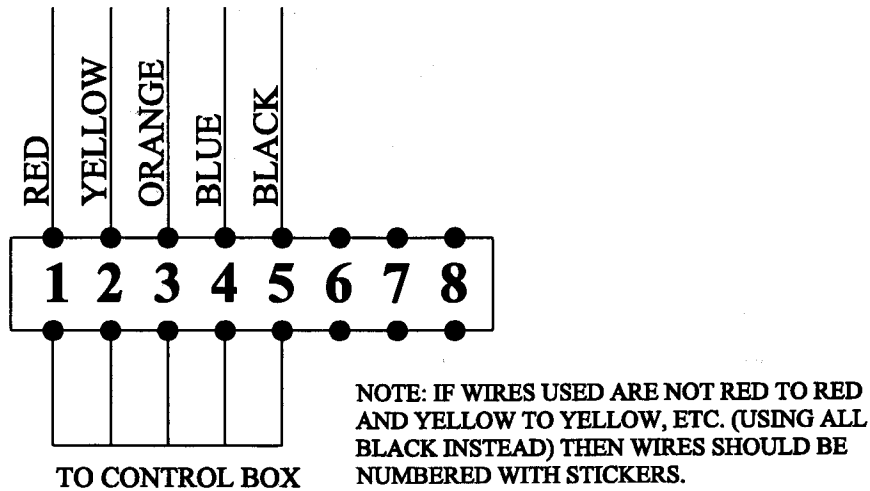

FIG. 1
- 1) After the scale and augers are installed make a final inspection. Make sure the augers have 1/2" clearance going through the wall of the house. See Fig. 1.